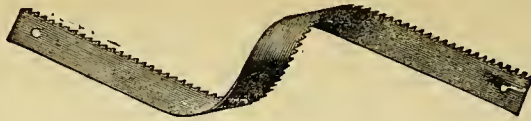

FIG. 4.—PATENT FLEXIBLE BACK HACK SAW.
16. *Patent Flexible Back Hack Saw*.—Those of our readers who are workers in metal, or who have used a hack-saw at any time for cutting metal, are aware that the blades are of highly tempered hard steel throughout, and apt to snap asunder under adverse circumstances, or when bent beyond a certain degree of temperature. Messrs. Churchill and Co. have recently introduced from the United States "something new" in hack-saws, in the form of blades with flexible backs, which are tempered by an entirely new process, which makes the teeth or cutting portion of the necessary temper, but which leaves the back flexible, or without temper, so that when the saw is in use it is impossible to break it. These saws are made in three grades—No. 1, for steel, wrought-iron, and cast-iron; No. 2, for brass, copper, and iron tubings; and No. 3, for solid brass castings. Persons ordering saws should state the purpose for which they are required, in order that they may be supplied with the right grade. The saws are made in seven sizes, increasing by 1 inch each size from 6 inches to 20 inches. The price to buyers in this country will probably range from 2s. 6d. to 5s. per dozen, post free, but I infer this from the prices in America, and do not state it on authority. As the back of the blade is soft, if the saw blade happens to be too long for the frame, and most people use solid frames, it can be cut to the necessary length to fit the frame, and a hole drilled in the end that has been shortened. I can say that all that is advanced with respect to these saws is true. Messrs. Churchill and Co. showed me a specimen that was twisted far more than the blade exhibited in Fig. 4—twisted indeed so much that it looked, at first sight, more like a corkscrew than a saw blade. They also showed me another blade that had been twisted to the same extent, and had then been beat out, hammered flat, and brought into working order again.